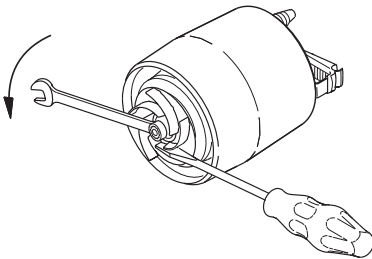

Fig. 14
- Slacken and remove the nut on the motor shaft (13 mm). Prevent the impeller from rotating by means of a screwdriver, see fig. 14.